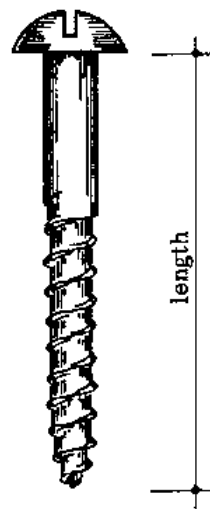

Fig. 2
- Round head screws (Fig. 2, page 210)
- ROUND HEAD SCREWS: The head of these screws is round on top and flat underneath, and the length is measured from the underside of the head to the point (Fig. 2, page 210).